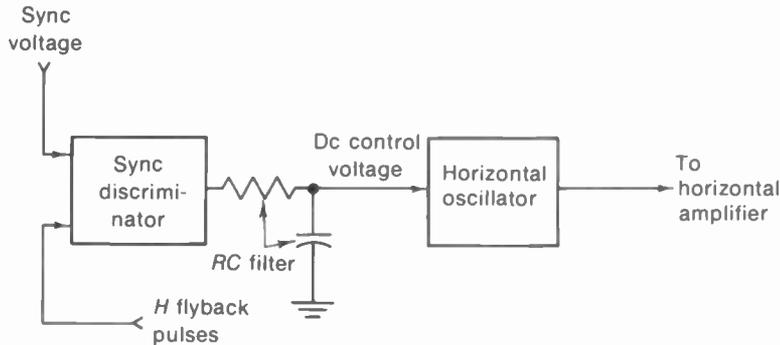

FIGURE 16-17 BLOCK DIAGRAM OF AFC CIRCUIT FOR HORIZONTAL OSCILLATOR.
**AFC requirements.** The typical arrangement of an AFC circuit for the horizontal deflection oscillator is illustrated in Fig. 16-17. The operation can be considered in the following steps: